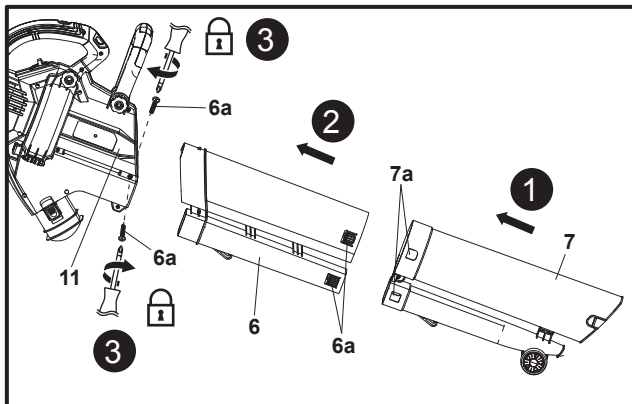

Fig. 1
2. Align the lower tube (7) to the upper tube (6) and insert it all the way to the stop (Fig. 1, step 1). Ensure that the four latches (6b) engaged in the four corresponding location holes (7a) and the tubes (6 / 7) lock in place.
3. Align the assembled tubes to the main unit (11) and insert them all the way to the stop. Secure the upper tube (6) to the main unit (11) with the two screws (6a) using a suitable cross-head screwdriver (not supplied).